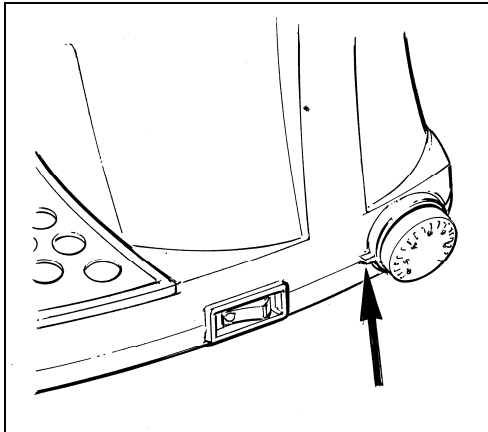

Fig. 5
- In order to regulate the desired temperature, rotate the thermostat knob until this temperature will match the plastic pin indicated by the arrow in figure 5.